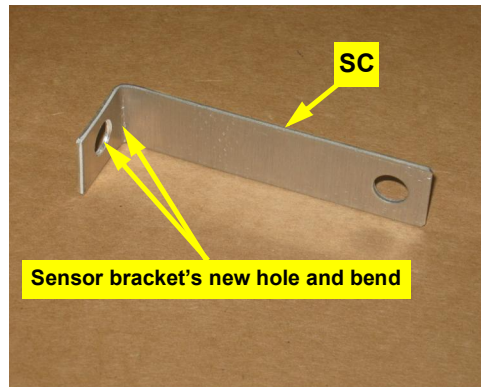

Figure 1b: Newly drilled/bent sensor bracket
- b. Drill a 3/8" hole in the sensor bracket **SC** at the opposite end from the sensor hole. Put a 90° bend in the end just drilled (Figure 1b).